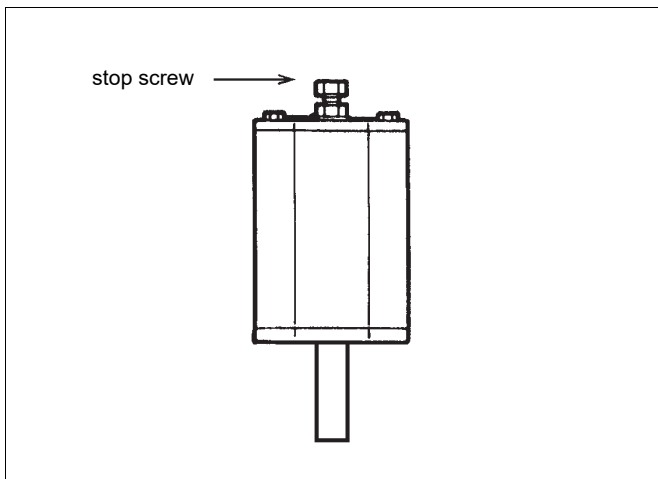

Fig. 4 The stop screw in the cylinder end
There is an adjustable stop screws in the cylinder unit, see Figure 4. This screw in the cylinder end (44) limits the stroke length of the piston. Use thread locking compound, for example Loctite 225, for sealing the stop screw.